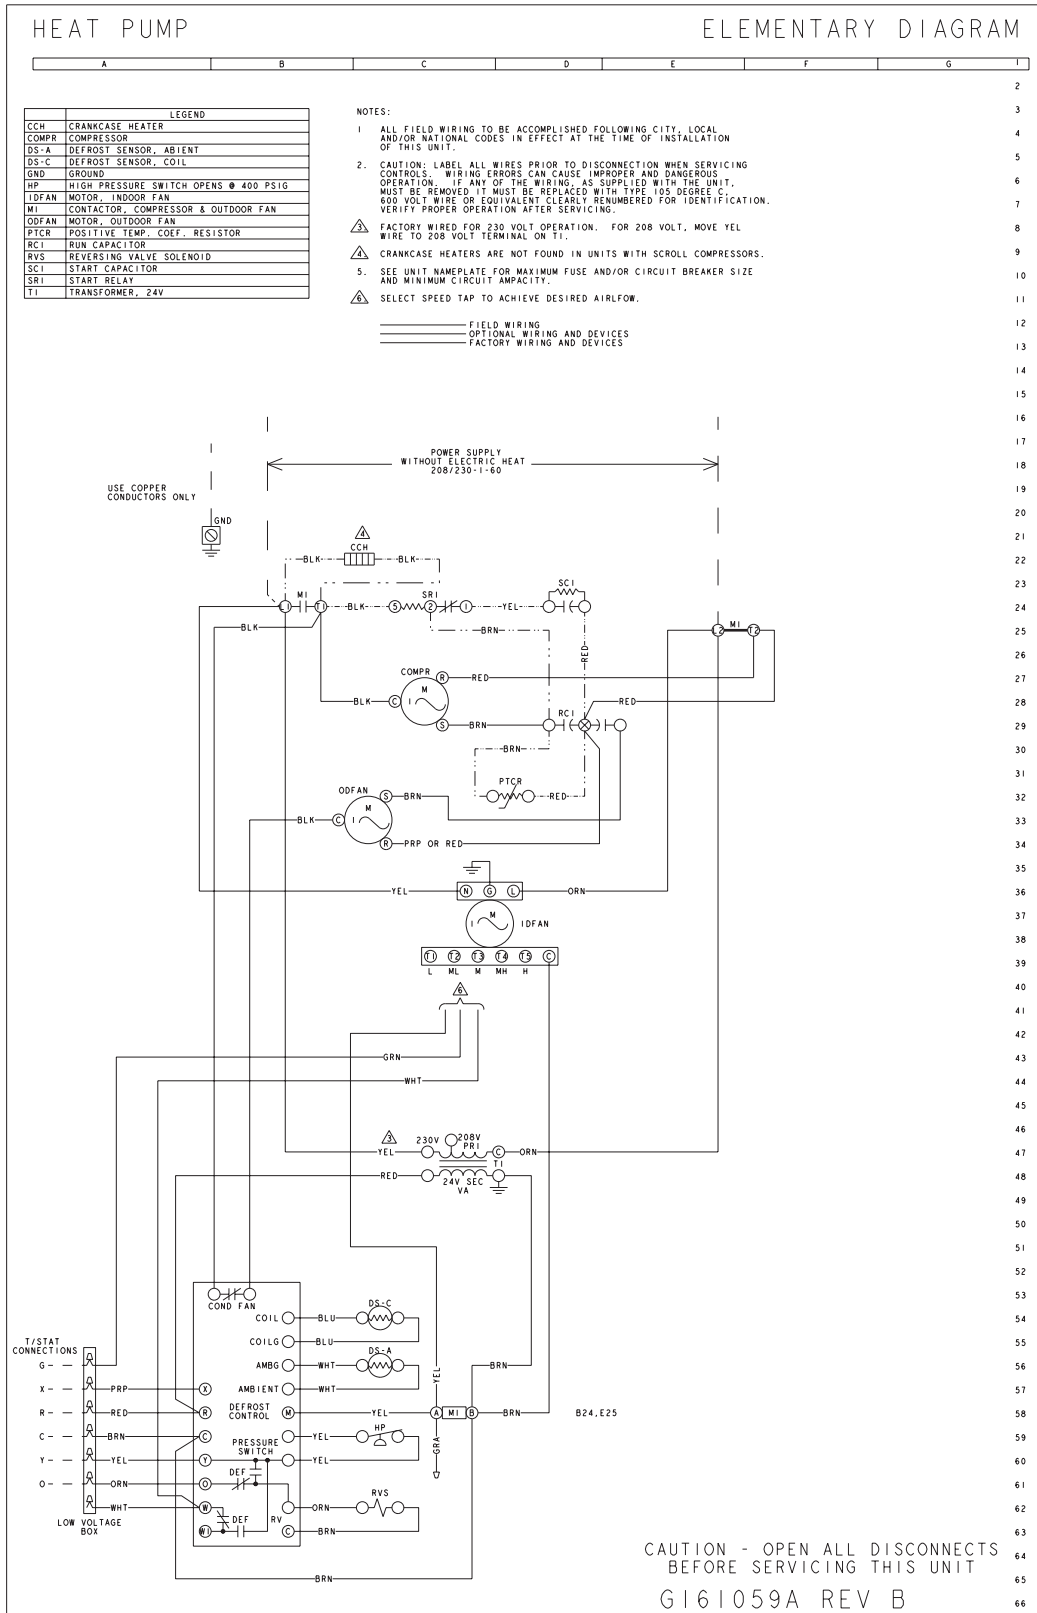

FIGURE 4: TYPICAL JP, PHP 024, 030, 036, 042, 048 & 060 WIRING DIAGRAM
4. Attach the brown lead wire from the starting kit relay #2 to the same terminal on the run capacitor that was located in Step 3. See Figure 4.
NOTE: The wiring of the capacitor and relay must agree with Figure 4. Also, see diagram on control box cover.